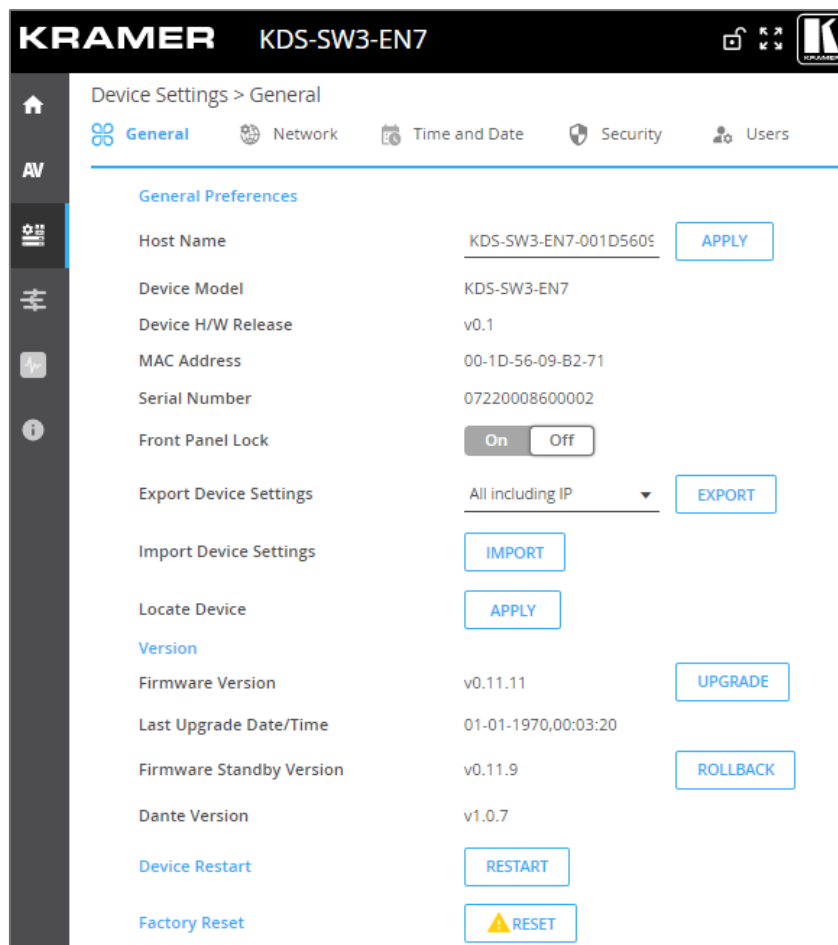

Figure 24: Device Settings – General Tab
1. In the Navigation pane, Select **Device Settings**. The General tab in the Device Settings page appears (see Figure 24).